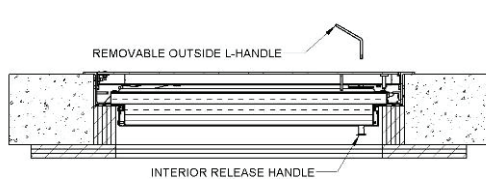

FIGURE 2
- First, disengage the spring by loosening the two hex head screws in the spring keeper. (Figure 2)
For 1" Pan Doors (Figure 2), spring force is calculated for 1" infill of concrete. If less concrete or a lighter material is used, reduce spring force using the instructions on Previous Section.